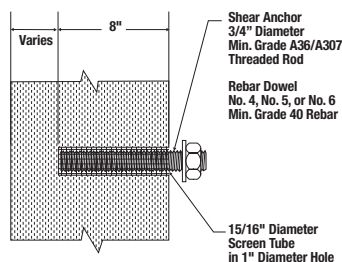

Figure 1
**Shear Anchor – Configuration A (See Figure 1)**